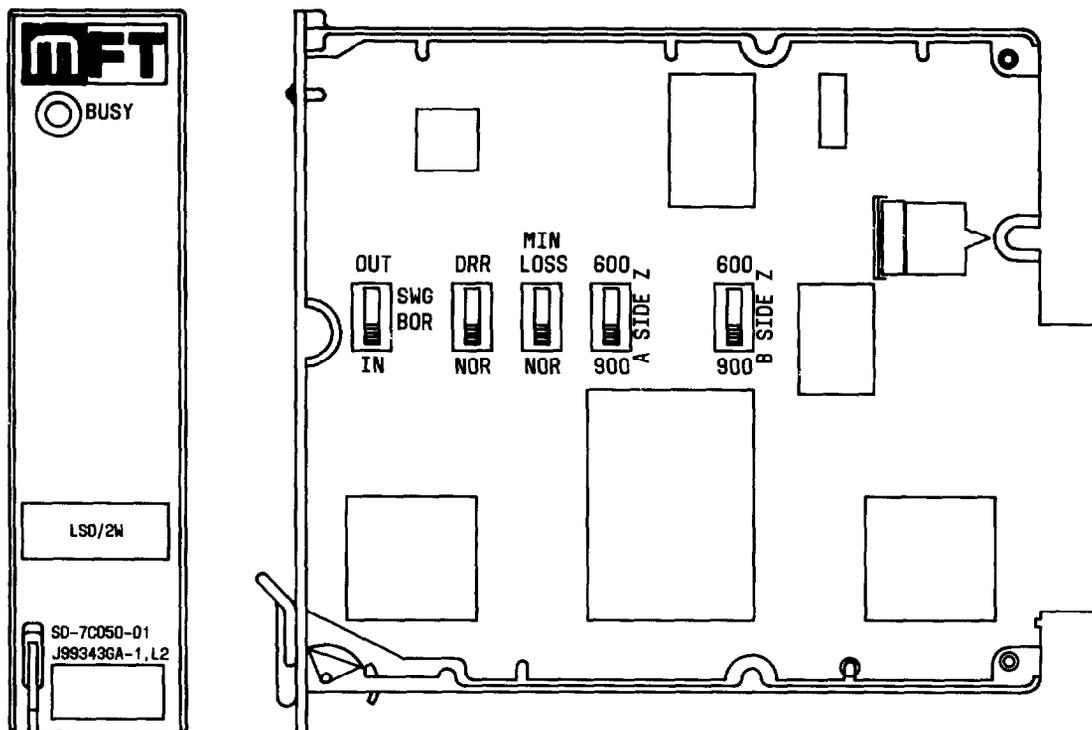
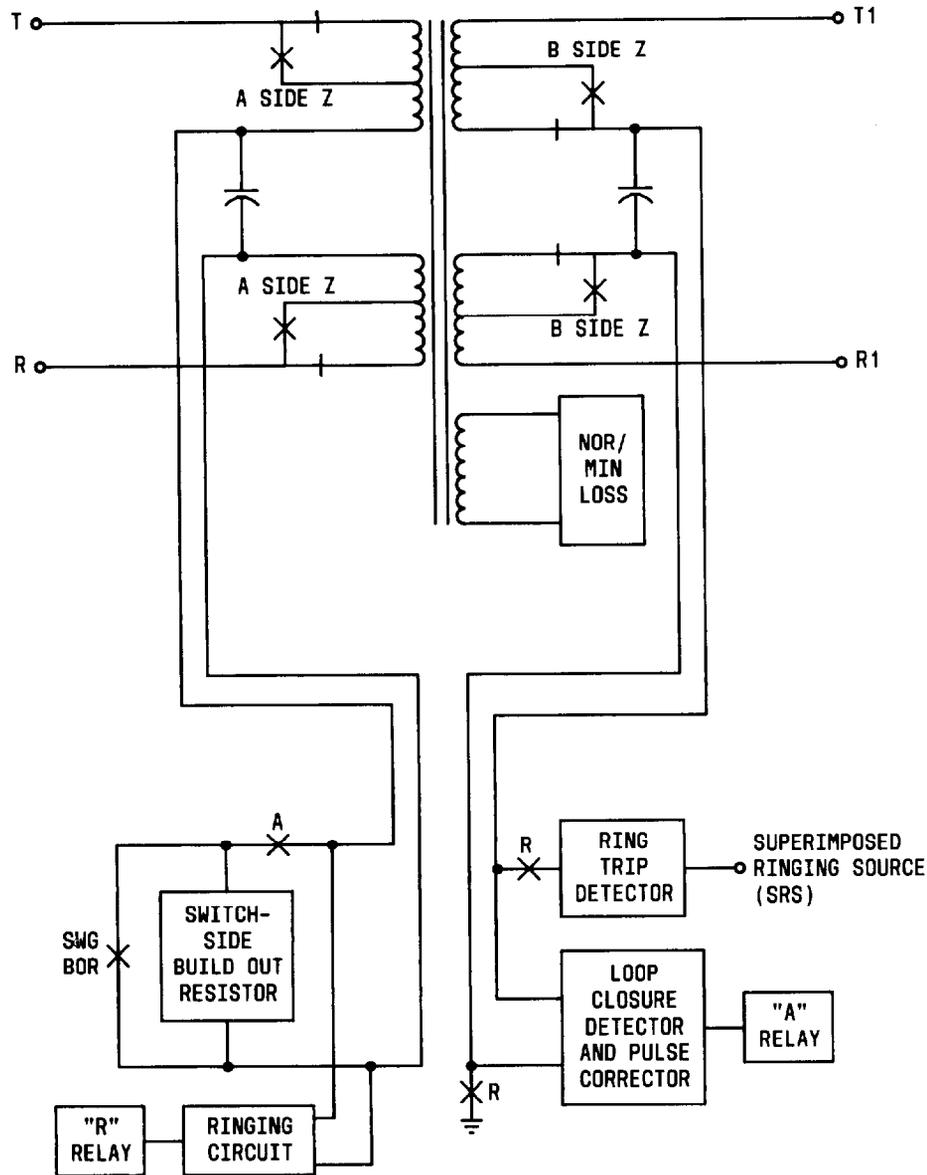
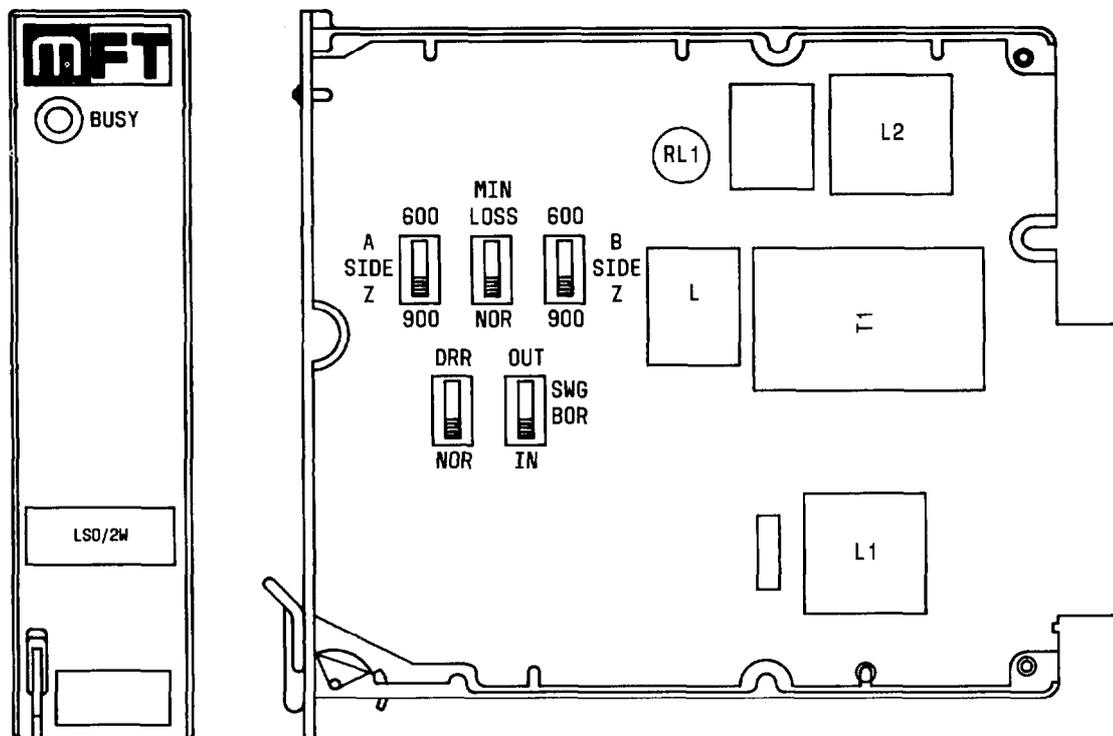

Fig. 3—Loop-Start Only/2-Wire Transmission Unit J99343GA,L2
Fig. 4—Block Diagram of J99343GA, L2 and L3
Fig. 5—Loop-Start Only/2-Wire Transmission Unit J99343GA, L3
3.01 The J99343GA,L2 is shown in Fig. 3. This unit provides transmission coupling between 2-wire circuits. Figure 4 is a block diagram of this unit.
3.10 The unit controls are illustrated in Fig. 3.
4.01 The J99343GA,L3 is shown in Fig. 5. This unit provides transmission coupling between 2-wire circuits. Figure 4 is a block diagram of this unit.
4.10 The unit controls are illustrated in Fig. 5.